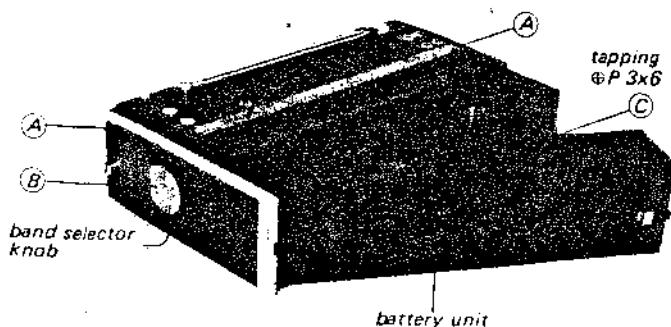

Fig. 2-1
1. Remove the two retaining screws marked (A) in Fig. 2-1.
2. Remove the ornamental screw marked (B) in Fig. 2-1 and pull out the band-selector knob.
4. Remove the three tapping screws ($\oplus P\ 3\times 6$) marked (C) in Fig. 2-1.
5. Remove the cabinet in the direction shown by the arrow in Fig. 2-1.